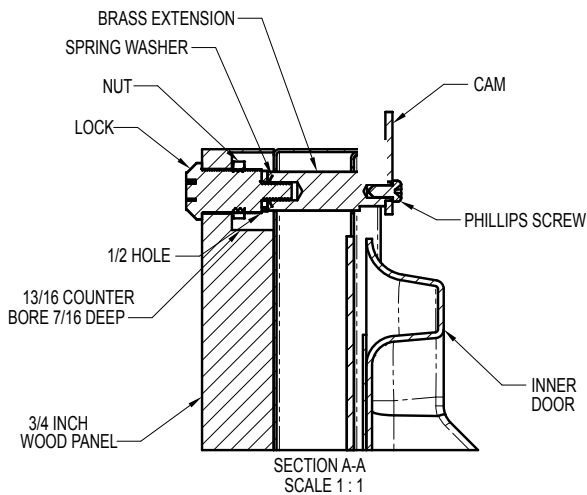

Figure 23
Two (2) lock extensions are provided with the lock. Use the longer extension for  $\frac{3}{4}$ " thick overlay panels and the shorter one for  $\frac{5}{8}$ " thick overlay panels. Assemble the lock extension, cam stop washer, spring washer, and set screw to the lock as shown in Figure 23 and 24.